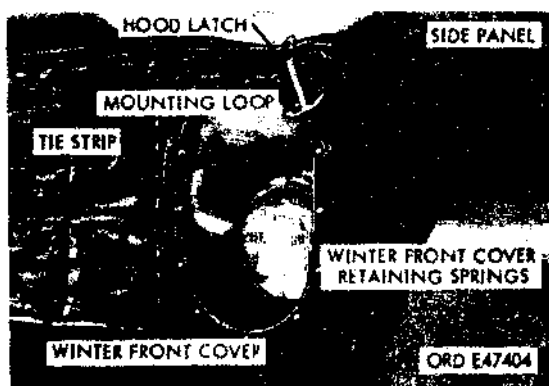

Figure 615. Winterfront cover retaining springs
- (4) Fold each side of cover back over side panel (fig. 615). Pull each winterfront cover retaining spring backward to apply tension on cover. Locate and drill four 1/8-inch holes for retaining springs. Attach springs to holes.